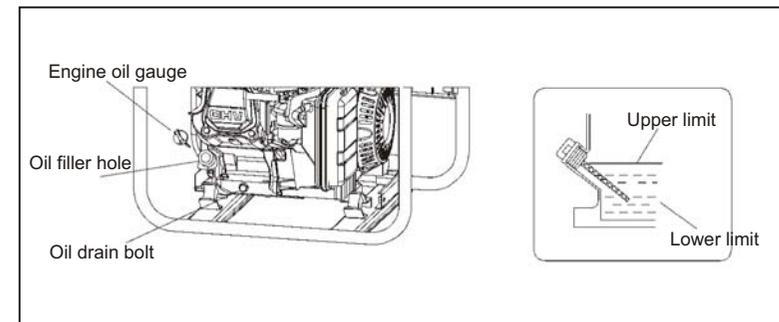

Fig.3 Oil level diagram
- Remove the oil filler cap, and wipe the dipstick with a clean rag. Check the oil level by inserting the dipstick in the filler hole without screwing it in. (See Fig.3)